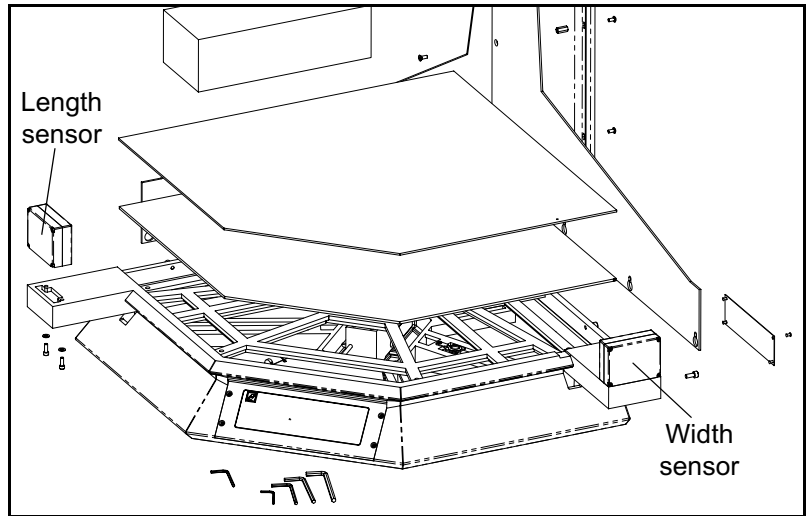

Figure 7
1. Place the width sensor, labeled "Right," on the right, front corner of the base (see Figure 7). You will need to push the side panel out slightly to place the sensor in the correct position. If you tightened the front-most screw, you need to loosen it.